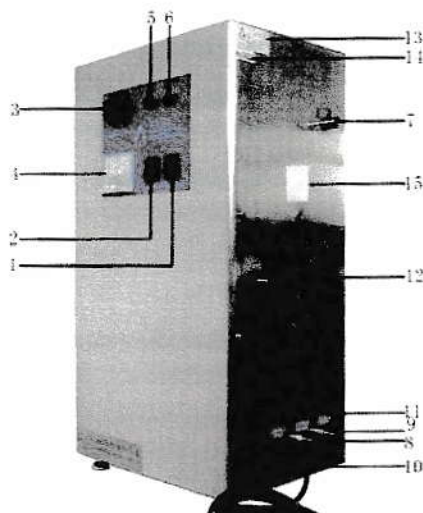

Fig.4 External appearance
10.2.3.1 While using drying machine to supply dry and clean air to ozone generator, connect dry and clean air from drying machine to oxygen inlet 9 (Fig.4). Leave air outlet 7 of ozone generator in this manual (Fig.4) un-connected, and air pump switch 2 (Fig.4) off.
10.2.4.1 While using oxygen generator to supply oxygen to ozone generator, lead oxygen from oxygen generator to oxygen inlet 9 (Fig.4). Leave air outlet 7 of ozone generator in this manual (Fig.4) un-connected, and air pump switch 2 (Fig.4) off.
10.2.5.1 While using oxygen cylinder to supply oxygen to ozone generator, connect oxygen from oxygen cylinder to oxygen inlet 9 (Fig.4). Leave air outlet 7 of ozone generator in this manual (Fig.4) un-connected, and air pump switch 2 (Fig.4) off.